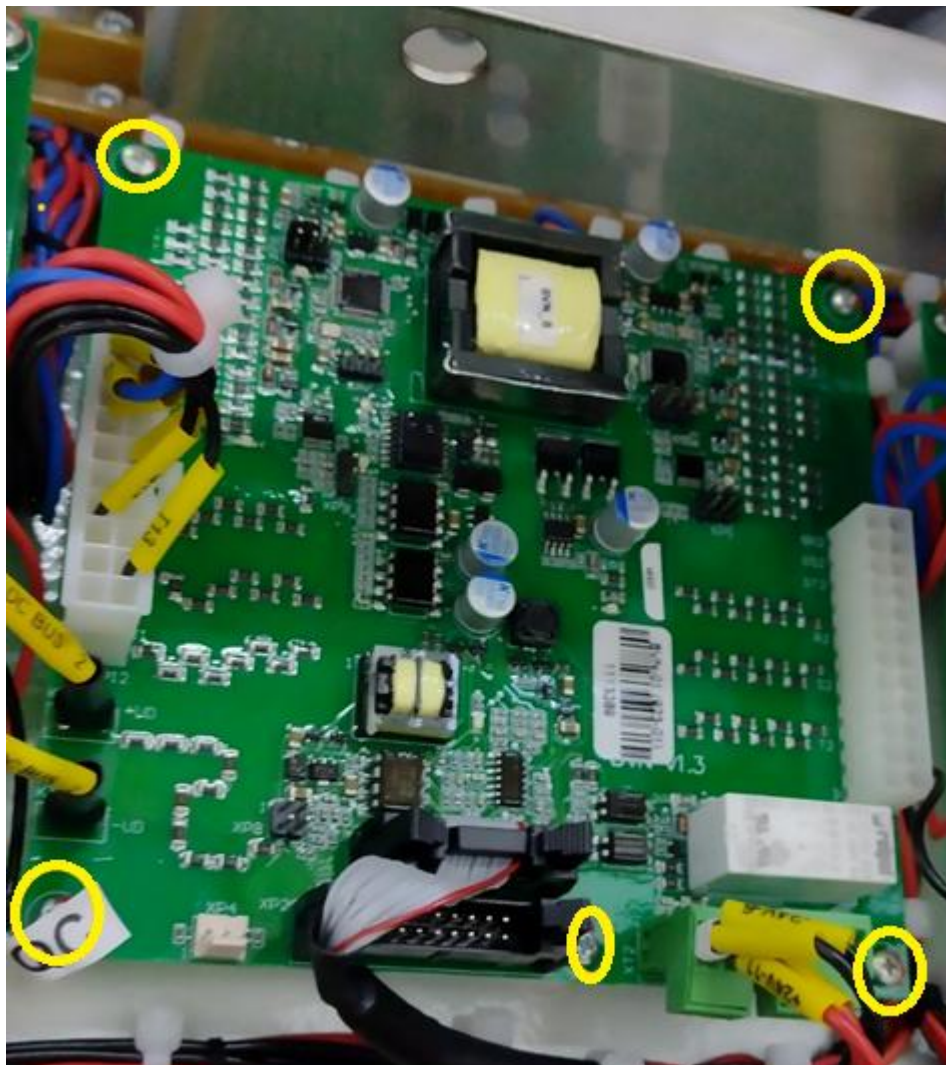

Figure 6 – BVN unit dismantling step
3. Unscrew the BVN unit from fastening which is shown at figure 6 using cross-head screw driver.